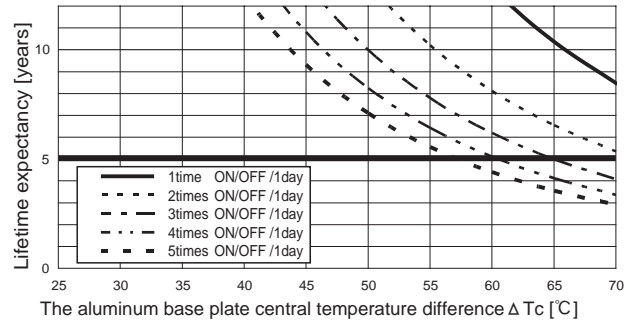

Fig.8.1 Lifetime expectancy against rise/fall temperature difference
■Product lifetime expectancy depends on the aluminum base plate central temperature difference ( $\Delta T_c$ ) and number of cycling in a day is shown in Fig.8.1.